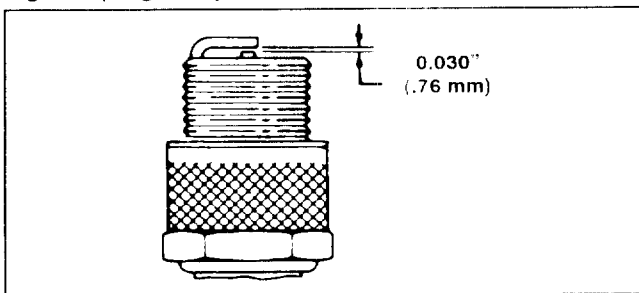

Figure 19
3. Set air gap at 0.030" (0.76 mm) (Fig. 19). Install correctly gapped spark plug and gasket seal. Tighten plug firmly to 14 ft-lb (19 N.m).